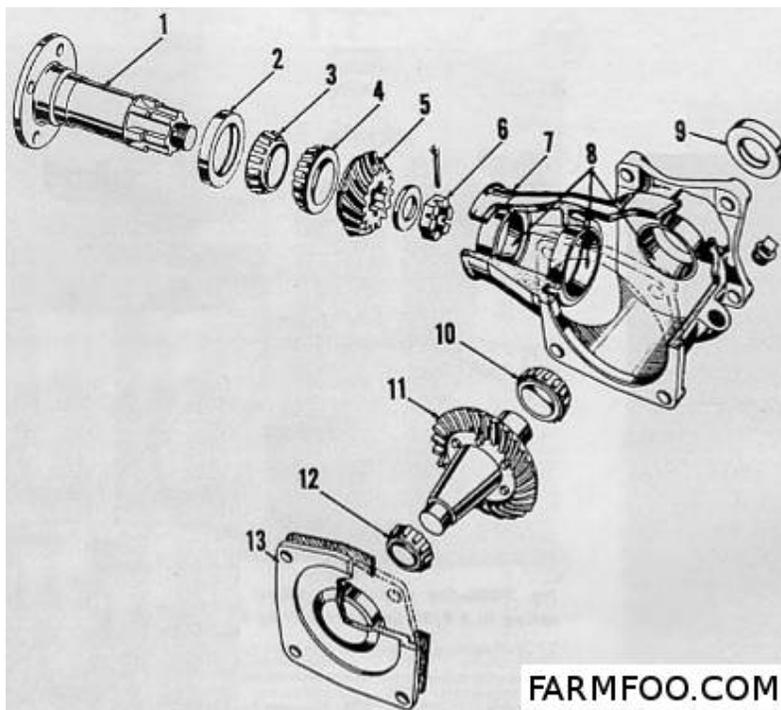

Fig. F077 - Belt pulley assembly optionally available on models 2N-8N-9N.
97A. Overhaul procedure is as follows: Drain lubricant and remove housing cover (13-Fig. F077) and gasket. Remove castellated nut (6) from inner end of pulley shaft. This nut must be unscrewed in stages as shaft is being removed. Remove drive shaft and gear (11) out through housing cover opening.